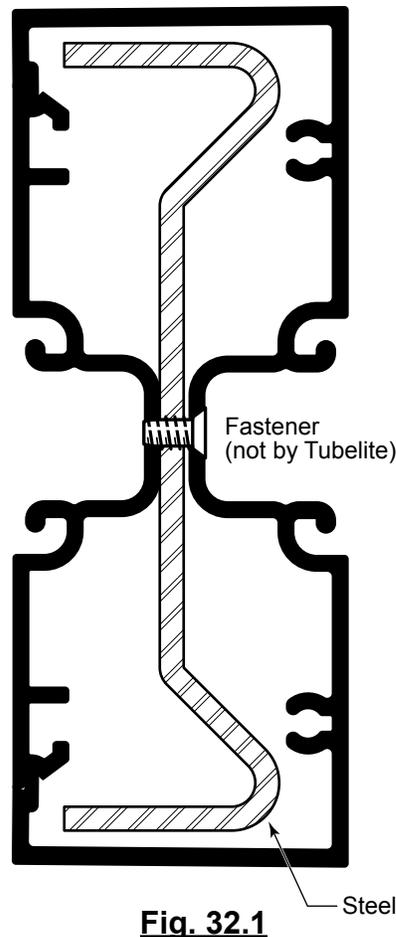

Fig. 32.1
- C. Insert steel into the mullion as shown in **Fig. 32.1**. Align and center the steel with mullion, then drill .213" diameter holes through the mullion and steel at 16" O.C.